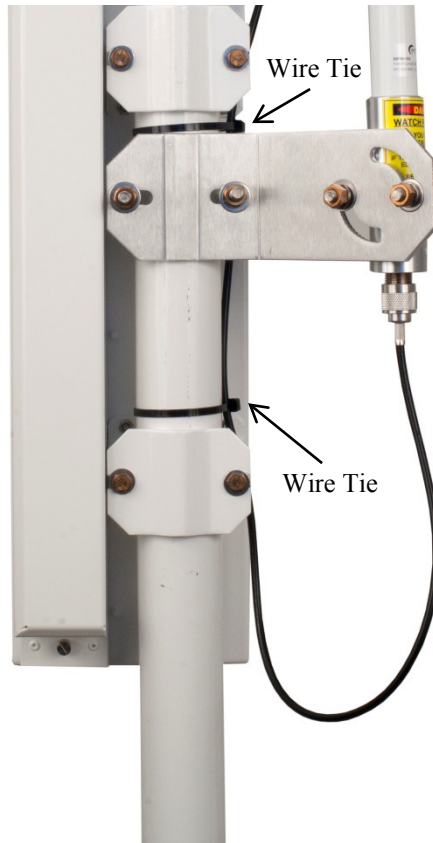

FIGURE 2-36. Wire Tie Locations for Omni Antenna Installation
5. Use the following procedure to install the 14205 Yagi antenna for the RF450. Installation of the 14221 Omni antenna is similar. See FIGURE 2-36.